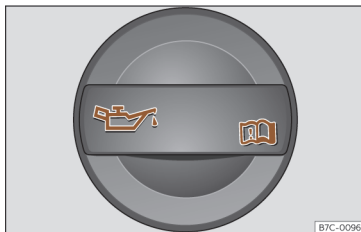

Fig. 198 In the engine compartment: Engine oil filler cap.
- Unscrew cap from engine oil filler opening >>> **Fig. 198**.